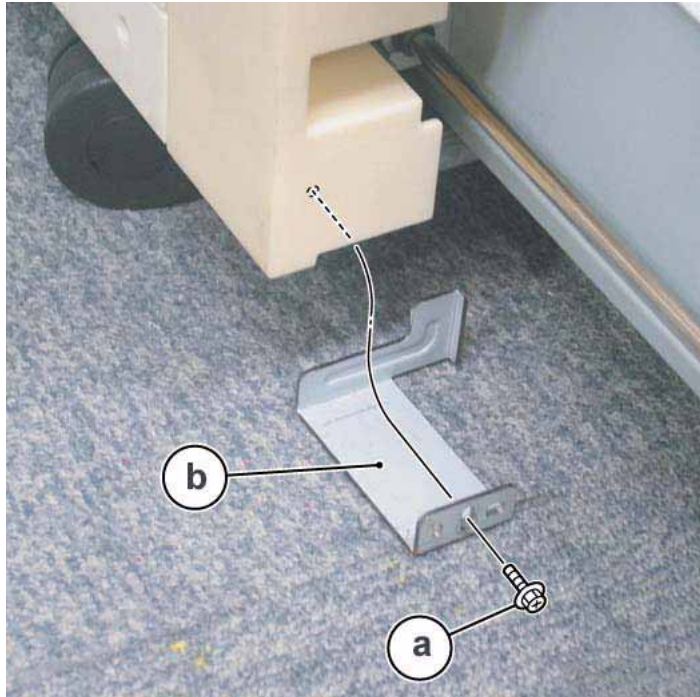

Figure 1 Removing bracket under left front corner of copier/printer.
2. Remove the bracket, located under the left front corner of the copier/printer. Figure 1